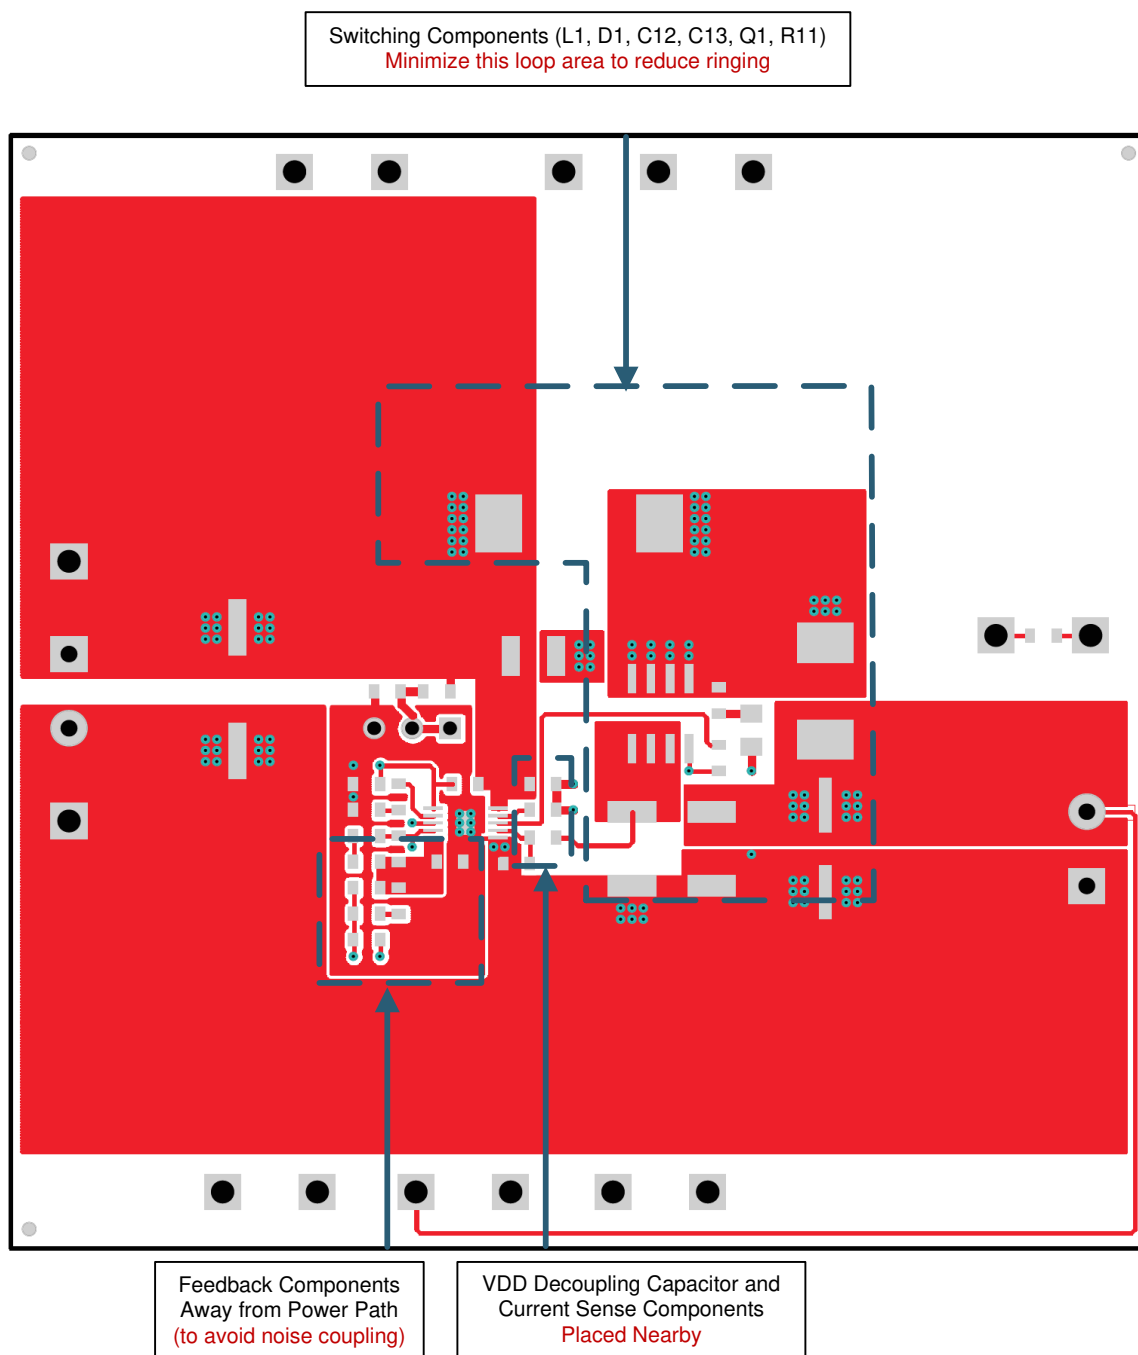

Figure 36. TPS40210 Top Layer
- All other analog components should be kept close to the IC such as those connected to RC, SS, COMP, FB, and ISNS. It is recommended to isolate this ground return used for these components to create a "quiet" ground minimizing any noise as shown in Figure 36.